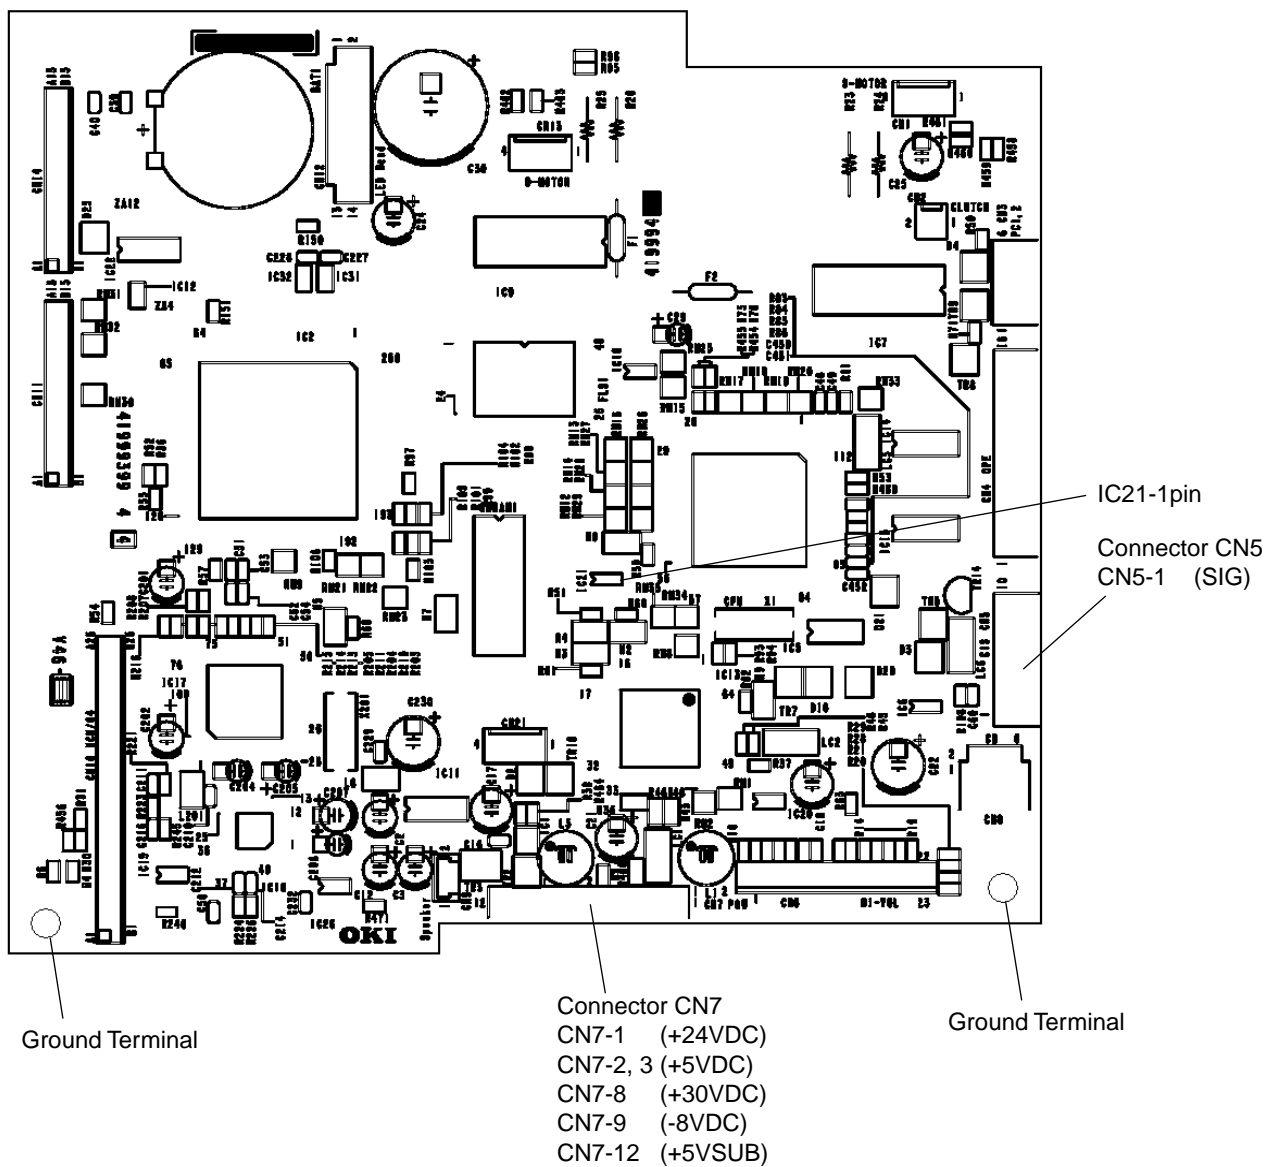

Figure 5.1 Measurement Points on Board-V46
- 4) Connect the frequency counter (for clock frequency), digital voltmeter (for power voltage) and Oscilloscope (for SIG signal). See Figure 5.1.